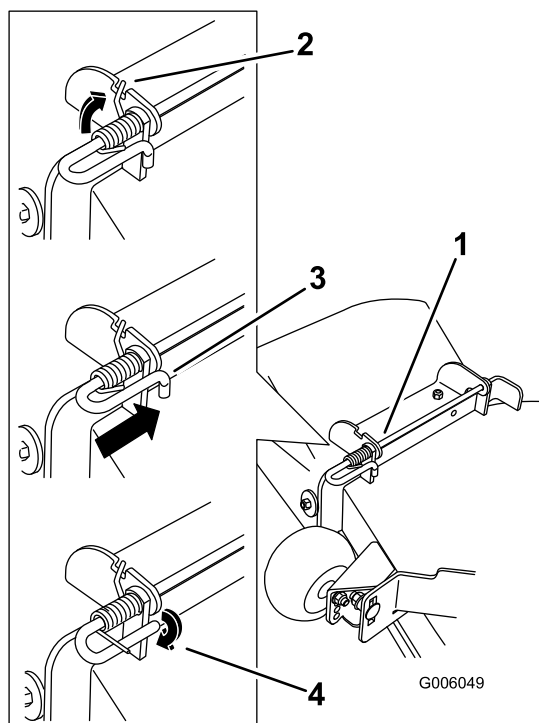

Figure 65
- Secure the rod and spring assembly by twisting it so the short end of the rod can be placed behind the front bracket welded to the deck (Figure 65).
- Lift the long end of the spring and place it into the notch on the deflector assembly bracket (Figure 65).